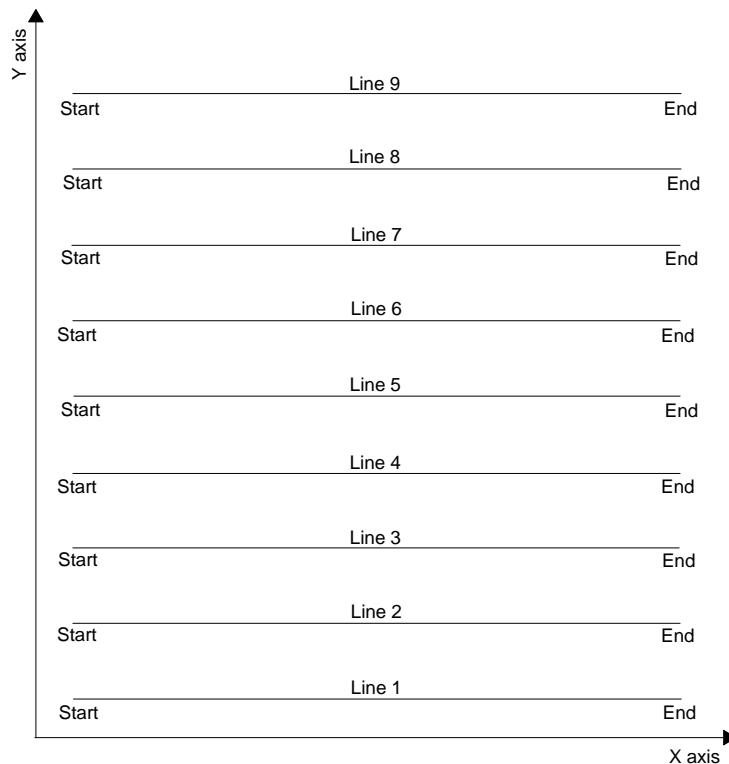

Figure 54 *This example shows a survey consisting of 9 parallel lines oriented in the x-direction and offset in the y-direction.*
A condensed step-by-step description is given below, in which it is assumed that the direction of the (first) electrode cable is called X, and that the perpendicular direction is called Y (Figure 54). In this figure, all lines have their first electrode at the same X location (no left-right offset) and it is only the Y location that differs between them. The description assumes that Res3Dinv (from Geotomo/Aarhus Geosoft/Seequent) is to be used for the inversion, but the majority of the procedure should be applicable to alternative inversion software.
9. Make a copy of the file "COLLATE_2D_TO_3D.TXT" (used to list and arrange a set of 2D profiles for collation into a single 3D file). The original can be found in the Res2Dinv program directory and, in your new copy, change the filenames (for input and output) and the coordinates, according to the present survey. The line direction in Figure 54 is zero in all cases (Res2Dinv defines X as 0, and Y as 1) and the line direction/sign is also zero (Res2Dinv defines forward (i.e. L-R) as 0, and reverse (i.e. R-L) as 1).